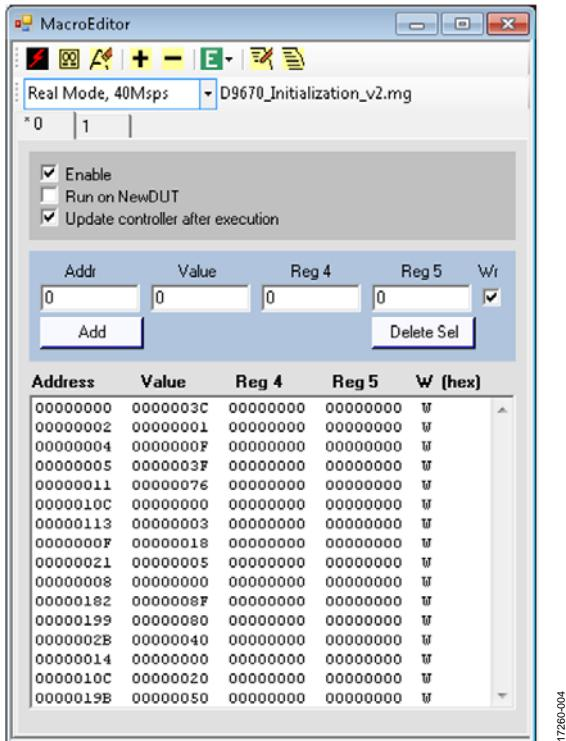

Figure 4. MacroEditor Window and D6970\_Initialization\_v2.mg Dropdown Box
6. In the main SPIController window, open the **File** menu and click **Open Macrogroup**. Select the **AD9670\_Initialization.mgp** macro file to open the **MacroEditor** window shown in Figure 4. The macro file is an .XML file that lists the serial peripheral interface (SPI) command macros in the **D6970\_Initialization\_v2.mg** dropdown box (see Figure 4). Each command macro includes SPI writes that configure the **AD9670** for specific operating modes. The **MacroEditor** conducts a batch write of SPI registers to set up the **AD9670**. The macro file contains the following two macros: **Real Mode, 40Msps** and **IQ Mode, 40Msps**. It is possible to add unique configuration macros to the .XML macro file and load the macros into the **MacroEditor** window.
17. To enable the demodulator and decimator, select and run the **IQ Mode, 40Msps** macro in the **MacroEditor** window (see Figure 4).